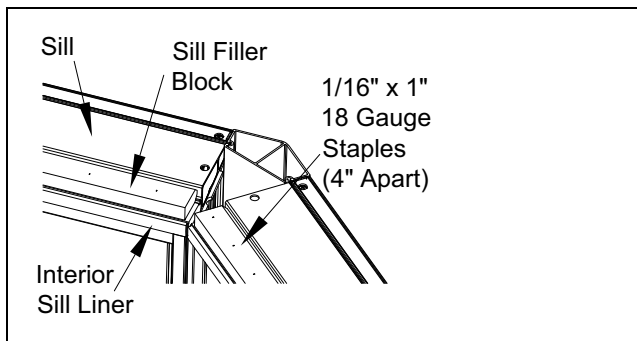

Figure 8
5. Turn mullied assembly over to expose sills. Remove shipping blocks from sill of each unit. Measure, cut, and apply sill filler blocks to full length of sill on each unit flush with interior face. Attach with  $3/16" \times 1"$  18 gauge staples spaced 4" (102) apart. See Figure 8.